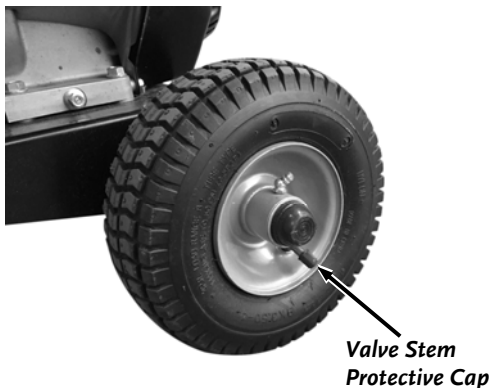

Figure 15
1. Remove the Valve Stem Protective Cap (**Figure 15**) and check the Tire pressure with a Tire Pressure Gauge.